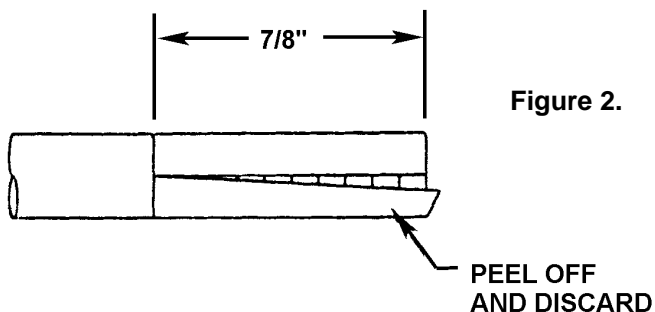

Figure 2.
3. Trim the cable Jacket 7/8 inch from the cut end with a knife. See Figure 2.